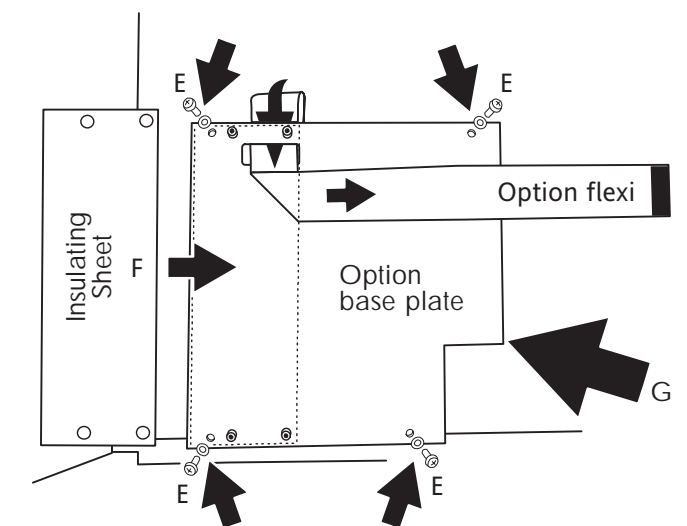

Figure 2.2.2b Fitting the base plate and insulating sheet
1. Fit the insulating sheet (BT260451), as shown in figure 2.2.2b, above.
2. Take the options base plate, and orient it as shown in figure 2.2.2b. Offer the baseplate up to the standoff/washers, at the same time, carefully passing the option flexi through the base plate aperture, as shown. Secure the base plate to the stand-off pillars, using 4 off M3 x 8mm screws ('E'), each with a shakeproof washer.